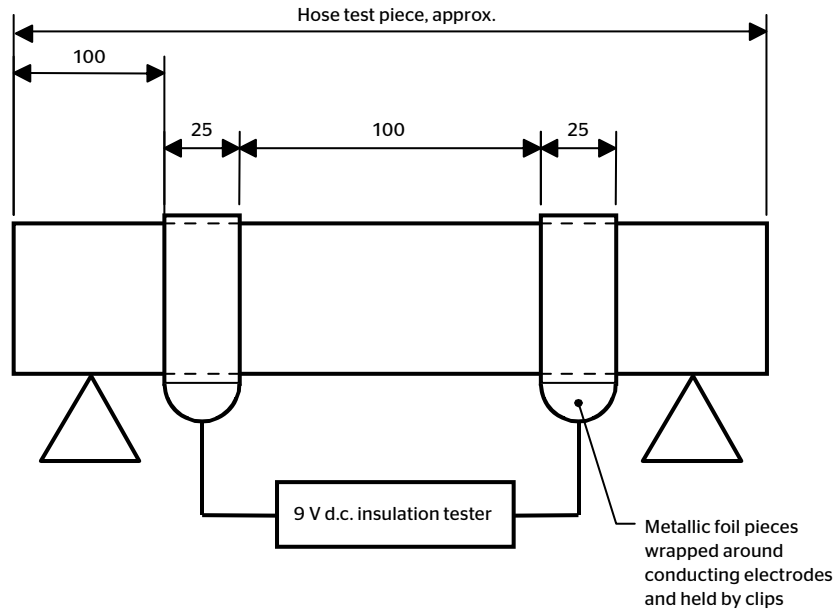

Figure 6-1 - Electrodes and contacts for testing hose
4.2 Electrodes and Contacts: When the test procedure calls for contact with the hose cover, electrodes shall be formed around the outer circumference of the hose as bands 25mm +2mm, 0 mm (1" +1/16", 0") wide by applying silver lacquer/ conductive liquid and metallic copper foil tape (i.e. 3M Scotch Brand) as shown in Figure 6-1. When a conductive silver
Apply the electrodes as specified to the outer circumference of the hose at each hose end. See Figure 6-1.
Ensure that contact is maintained with the electrodes around the circumference and that the contact pieces are sufficiently long enough for the two free ends to be held securely by a tensioning clip (see Figure 6-1) such that the fit of the electrodes is as tight as possible.